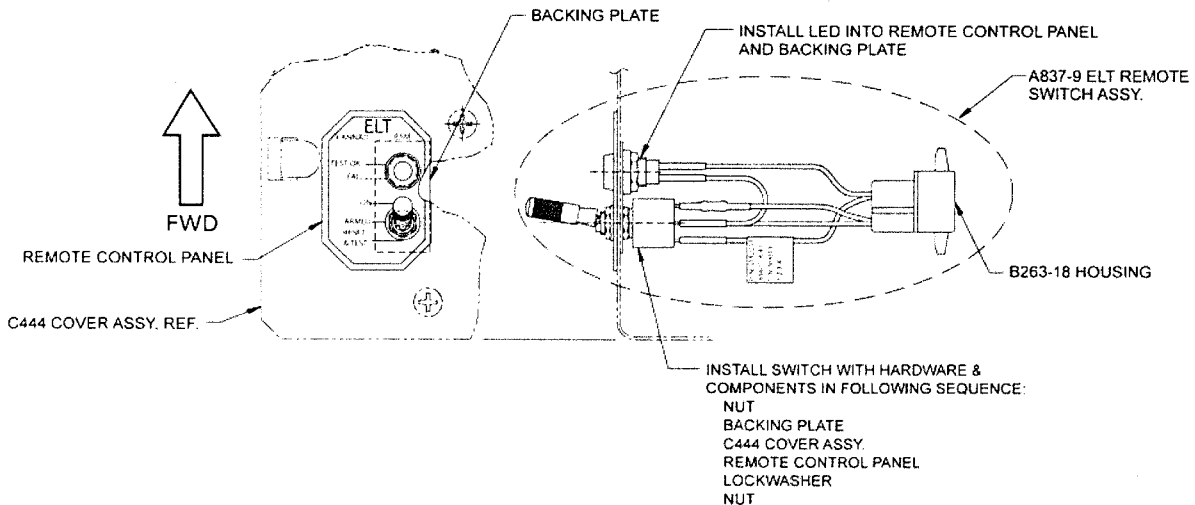

FIGURE 2 ELT REMOTE SWITCH INSTALLATION
6. Install A837-9 remote switch assembly into C444 cover with "RESET & TEST" position of switch AFT and secure with supplied hardware per Figure 2. Verify that momentary position of switch coincides with "RESET & TEST" position. Reinstall post light. Unmask cyclic box area.